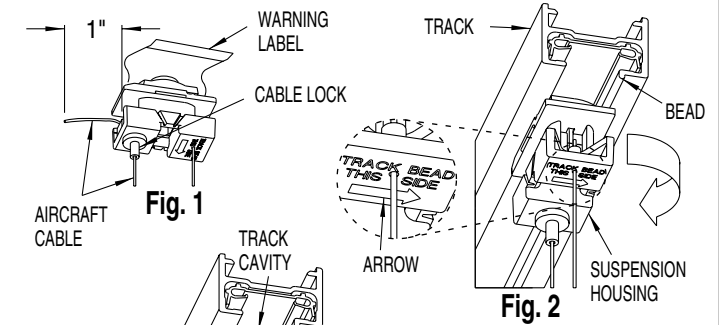

Fig. 1
1. Remove WARNING LABEL on SUSPENSION HOUSING. See Fig. 1.
2. Unwrap AIRCRAFT CABLE. While depressing CABLE LOCK, pull AIRCRAFT CABLE through, leaving approx 1" above CABLE LOCK. See Fig. 1.